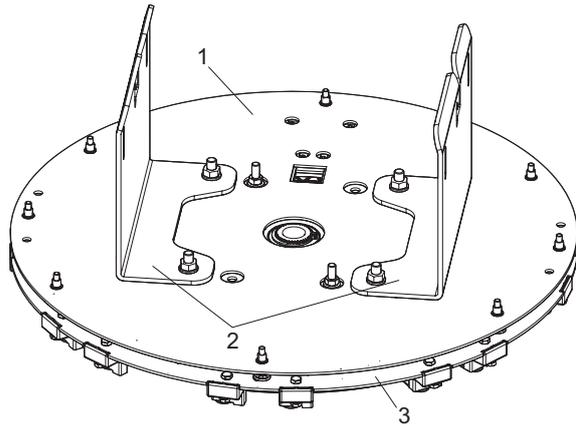

Fig. 65 Top side of operator
1. Distribute the sliding nuts (Fig. 65/2) in the center beams (Fig. 65/1) so that 4 sliding nuts are in position for subsequent assembly of the controller (Fig. 65/3) and the power supply unit (Fig. 65/4). Observe the position information in the wiring diagram.
2. Align and fasten 1 sliding nut each in the grooves of the center beams (Fig. 65/1 + 5) to the center marked.